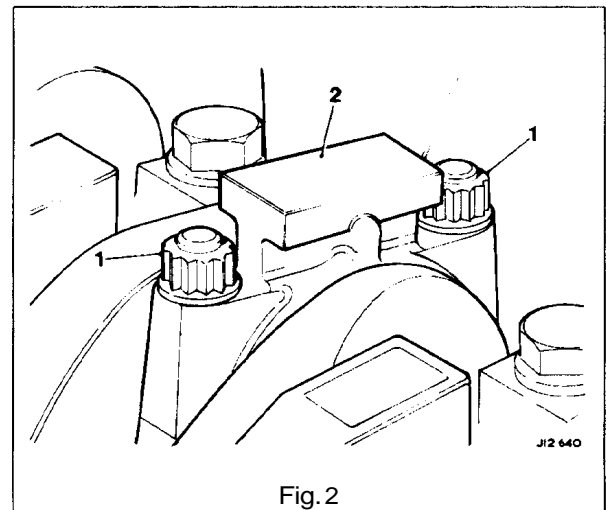

Fig. 2
- Remove the connecting rod nuts (1 Fig. 2) in connecting rod pairs (1 & 6, 2 & 5, 3 & 4 cylinders) and remove the connecting rod bearing caps (2 Fig. 2). Note the position of the cap to connecting rod. Discard the connecting rod bearing nuts.